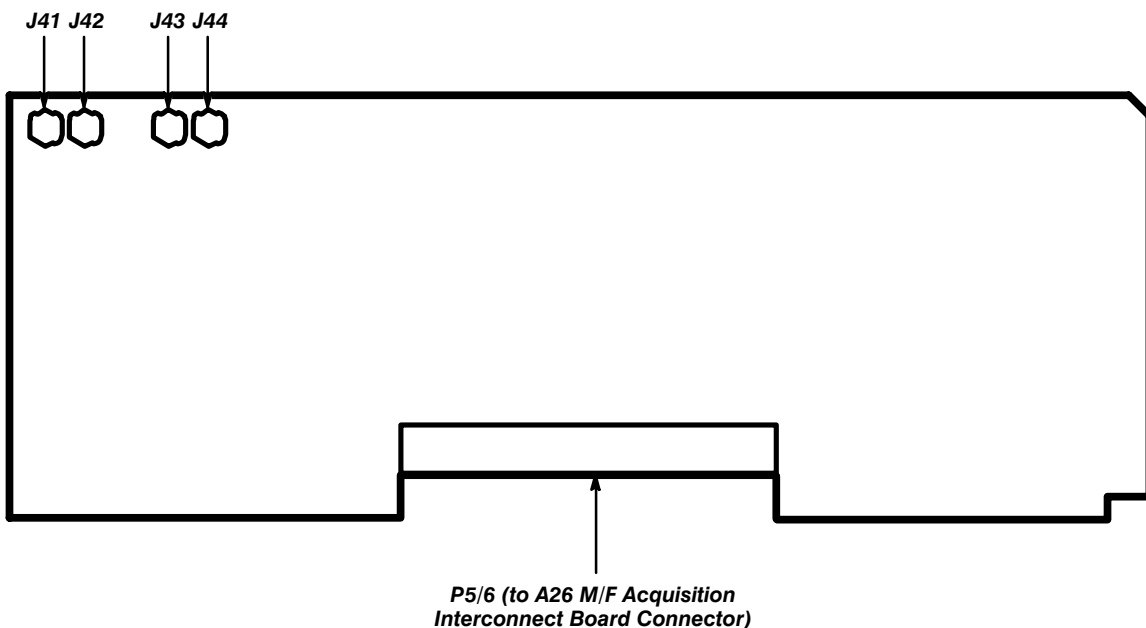

Figure 6-28: Removing/Replacing the A27 Acquisition Analog Board
- Locate U611 on the A28 Acquisition MPU board (see Figure 6-28). This board is located in the card cage.